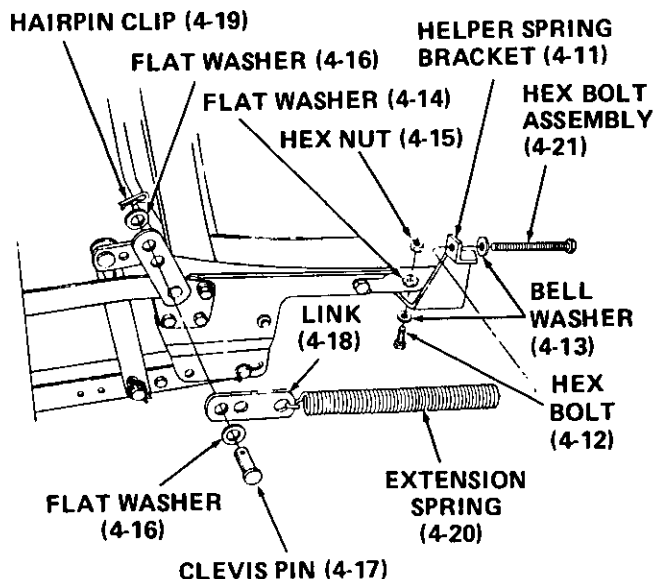

Figure 30
- e. Attach helper spring bracket (4-11) to left side of tractor frame using two hex bolts (4-12), bell washers (4-13) (cupped side against frame), flat washers (4-14) and hex nuts (4-15). Flat washer goes between helper spring bracket and frame. Refer to Figure 30.
- g. Hook end of spring into link as shown in Figure 30. Place bell washer (4-13) onto hex bolt assembly (4-21) with crowned side of washer against head of bolt.